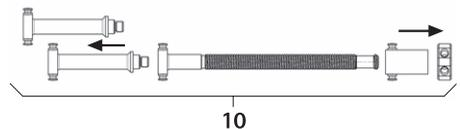

Fig. 6
- ▶ Dismount distraction spindle 10, see Fig. 6.